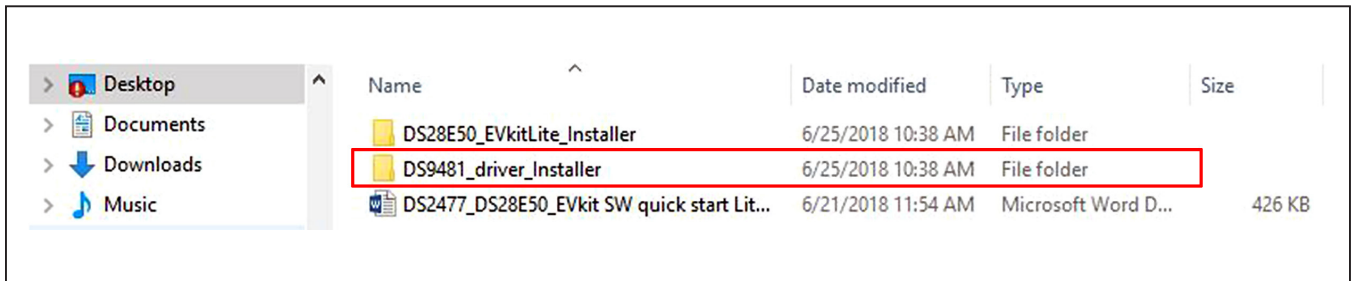

Figure 1. File Viewer with DS28E50 Installer and DS9481 Device Driver Installer
- a) Open folder **DS9481_driver_Installer** (Figure 1).